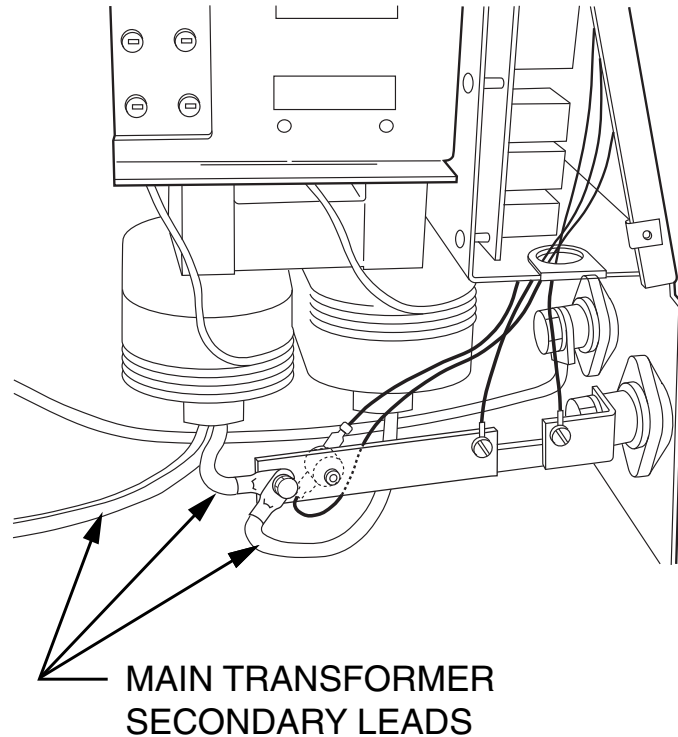

Figure F.24 Main Transformer Left Side
5. Locate main transformer and associated secondary leads, reactor leads, and shunt connections. See **Figure F.24**.
12. Using the 7/16" wrench remove the four secondary leads from the output rectifier module. Label the leads and note washer and lead placement for reassembly. See Figure F.24.